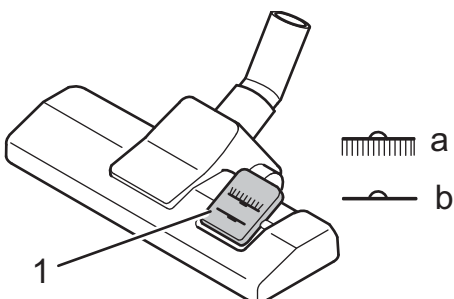

Fig.12
5. Adjust the carpet/hard floor switch (Fig. 12/1) depending on the type of flooring:
- **Hard floor (Fig. 12/a)**
- **Carpet (Fig. 12/b)**